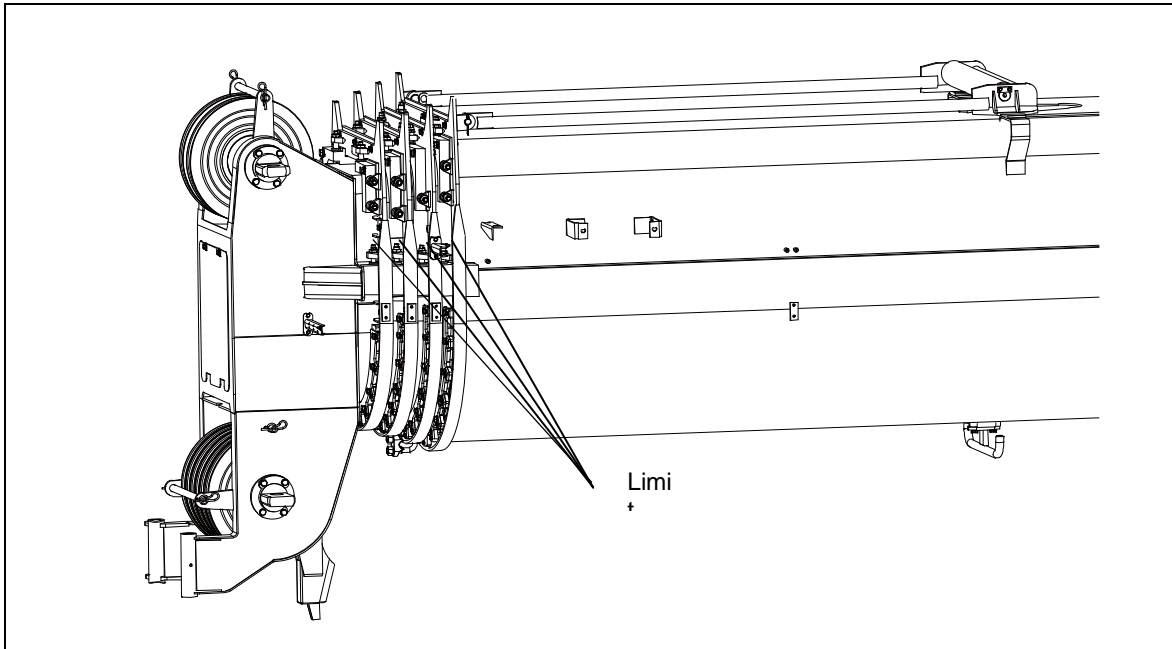

Figure 7-33 Adjust the limit bolt
- F. Adjust the limit bolt at the left side of boom head (viewed from the traveling direction) to keep 1- 2 mm clearance between its end face and the bearing block at the boom head. After that, tighten the locknut. Refer to Figure 7-33.